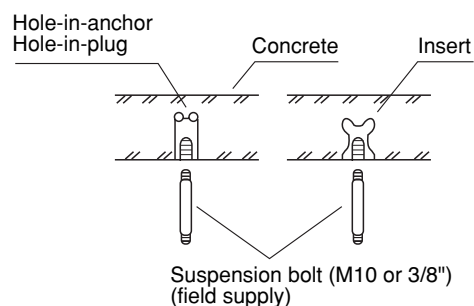

Fig. 3-1
- (1) Fix the suspension bolts securely in the ceiling using the method shown in the diagrams (Figs. 3-1 and 3-2), by attaching them to the ceiling support structure, or by any other method that ensures that the unit will be securely and safely suspended.